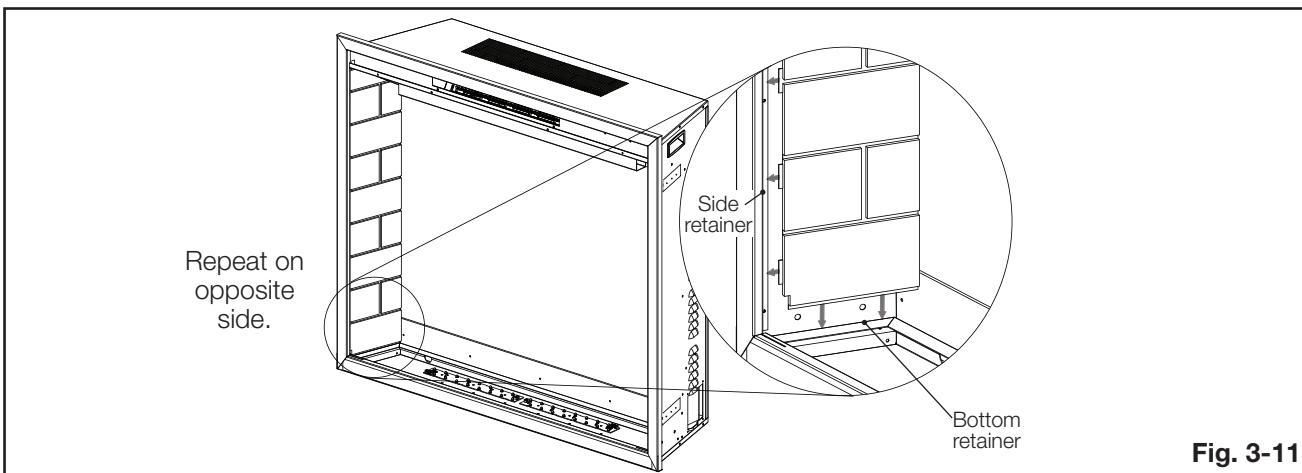

**Fig. 3-8**
7. Secure the appliance to the rough-in framing by installing 4 screws (supplied) through one of the three holes of the mounting tabs from the inside of the appliance (**Fig. 3-8**).